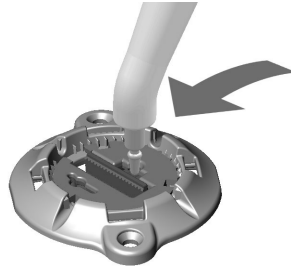

Figure 21. Lock the Slider
8. Place the tip end of the Placement/Removal Tool into the closure dimple or anywhere along the length of the Slider on the Retaining Clip to push the Slider towards the DBS Lead until it locks into place. Use the tip end of the Placement/Removal Tool to apply pressure on the Slider face in the opposite direction to ensure that the Slider is fully locked (Figure 21).